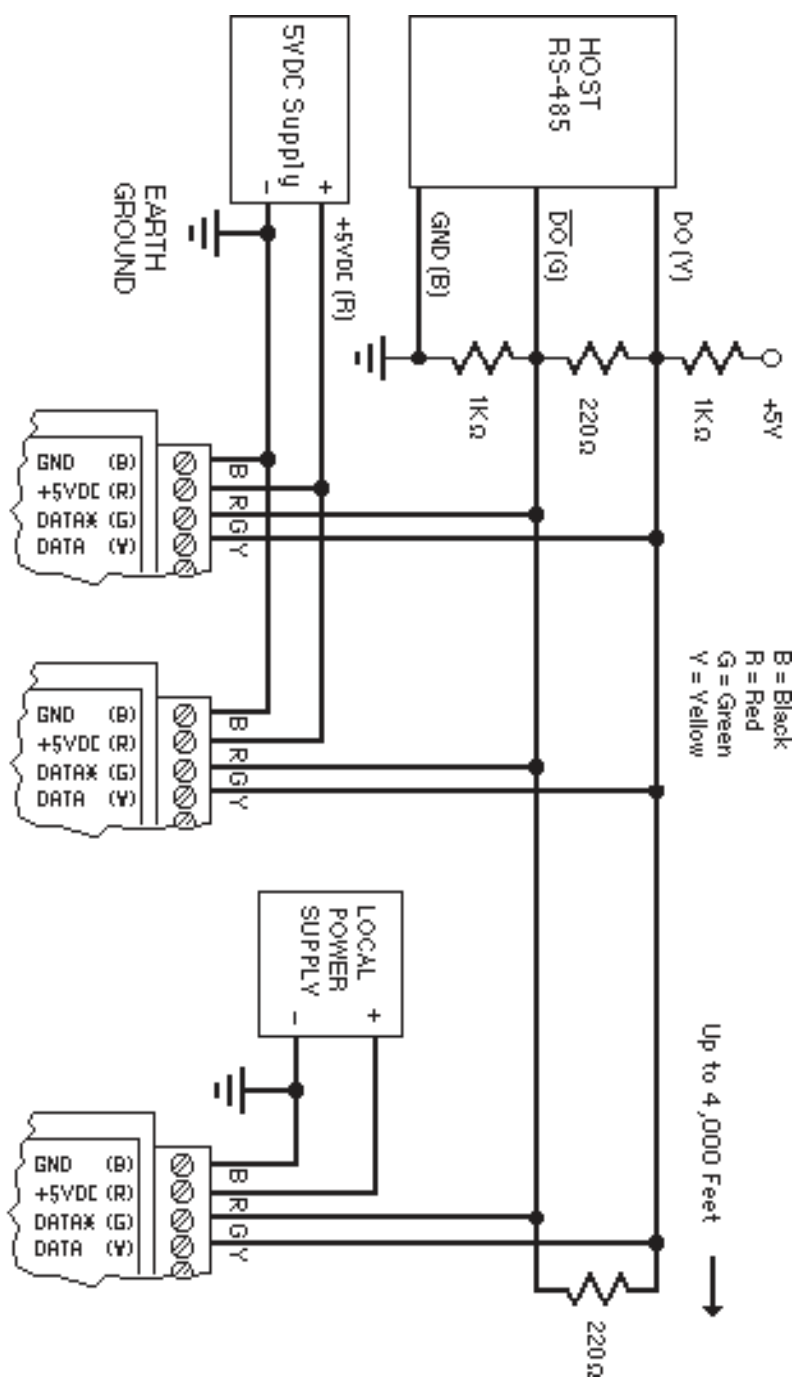

Figure 3.1 RS-485 Network.
Figure 3.1 illustrates the wiring required for multiple-module RS-485 system. Notice that every module has a direct connection to the host system. Any number of modules may be unplugged without affecting the remaining modules. Each module must be setup with a unique address and the addresses can be in any order. All RS-485 modules must be setup for no echo to avoid bus conflicts (see Setup). Also note that the connector pins on each module are labelled with notations (B), (R), (G), and (Y). This designates the colors used on standard 4-wire telephone cable:
During normal operation, there are periods of time where all RS-485 drivers are off and the communications lines are in an 'idle' high impedance condition. During this condition, the lines are susceptible to noise pickup which may be interpreted as random characters on the communications line. To prevent noise pickup, all RS-485 systems should incorporate 1K ohm bias resistors as shown in Figure 3.1. The resistors will maintain the data lines in a 'mark' condition when all drivers are off.